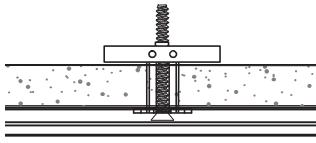

Fig. 5
- When no wood stud or wood backer attachment points are available due to the required lateral alignment of the track, use Snap toggles at all mounting points. See **Figure 5**.